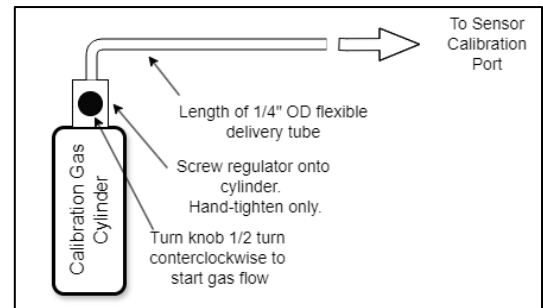

Figure 8: Calibration Gas Delivery Apparatus:
During calibration the KNET-CO2 Analog Input object's reliability will be set as shown in Table 4. During the calibration, the relay will be in an inactive state even if the CO2 is above the setpoint. Calibration requires a calibration kit with calibration grade 2000 ppm CO2, balance air or nitrogen gas, available from KELE as part number KCAL-2000. Assemble its gas delivery components as shown in Figure 8.
2. Pass the 1/4" OD calibration gas tube into the 'Calibration Gas Port' and slide onto the fitting inside. Enable calibration gas flow by turning the regulator knob a half-turn counter-clockwise (see Figure 8).